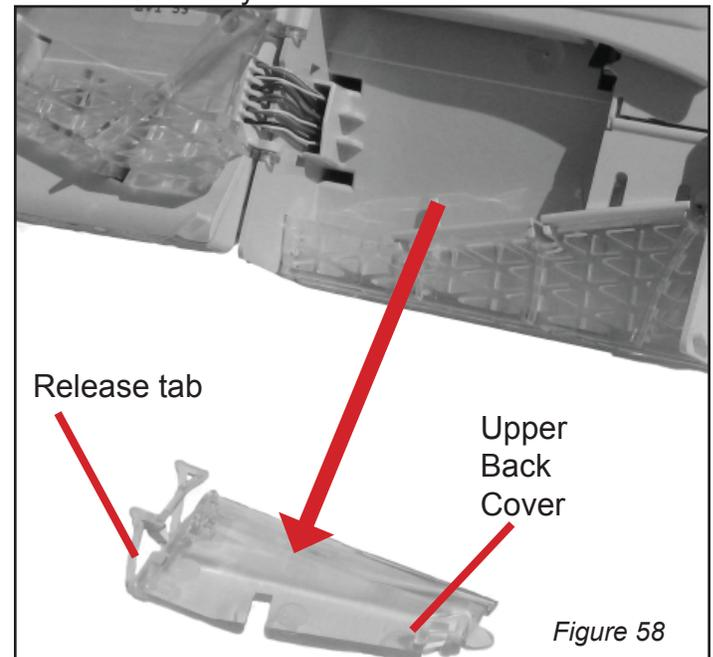

Figure 58
10. Remove the Upper Back Cover by pushing its release tab to the right. Lift the upper back cover out of the acceptor. Clean both sides of the Upper Back Cover. See Figure 58.